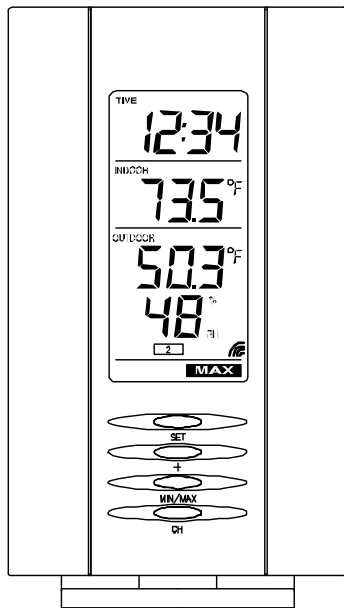

Figure 1
1. Two indoor weather station (Figure 1)